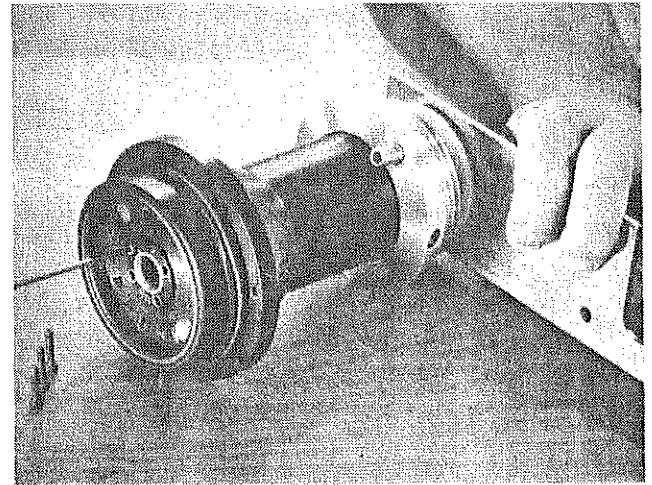

FIG. 33
17. Install four lubricated M3X16 MM balanced cap screws. Note these screws are weight-balanced and must be used as a set. If one is lost, replace all four with KK-4462 kit (Fig. 33). Tighten to 15-16 in. lbs. torque. Use RPM-419 wrench to lock shaft while tightening.